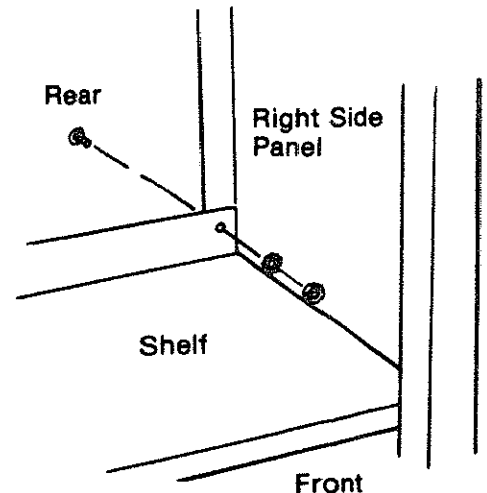

Fig. 26
15. Put a truss head bolt through the hole at the back, right corner of the *shelf*. This hole goes through the *shelf* and the *right side panel*. (Figure 26)